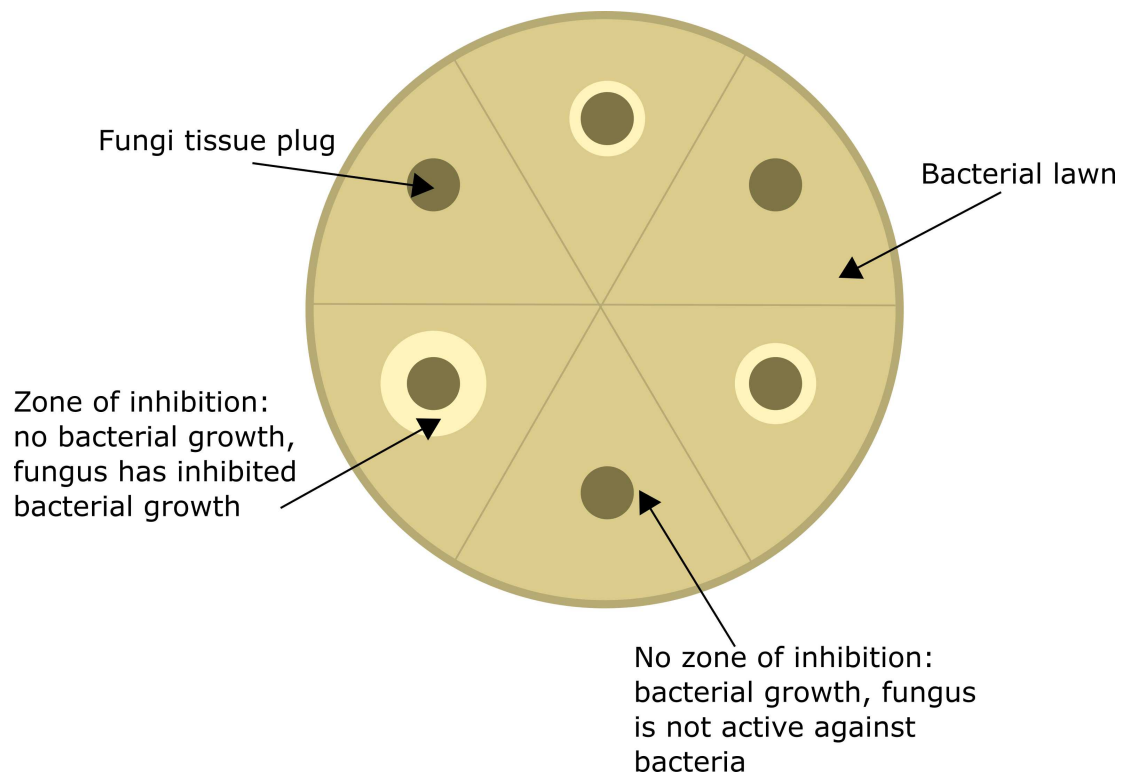

Figure 1: Schematic of a zone of inhibition plate
- 11 The following day, use a ruler to measure the diameter of any zones of inhibition formed. You may need to hold some plates up to the light to get accurate measurements. A diagram of the zone of inhibition results is shown in Figure 1.